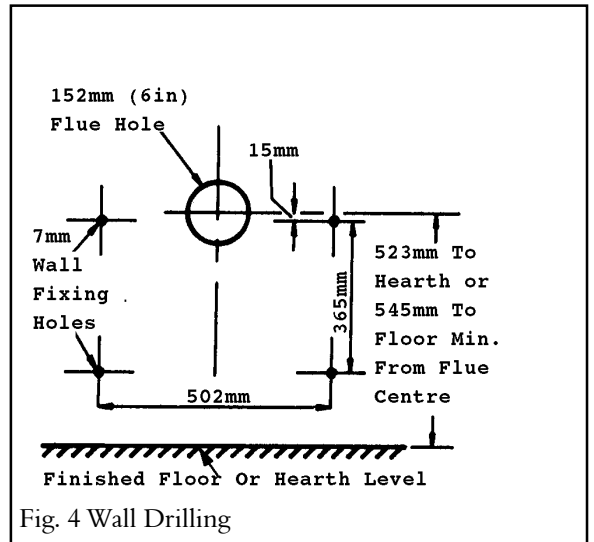

Fig. 4 Wall Drilling
this surface to the flue hole centre is shown in figure 4.
5.2 Place the template against the wall. Make sure that the centre of the flue hole is not less than the minimum shown in figure 4.